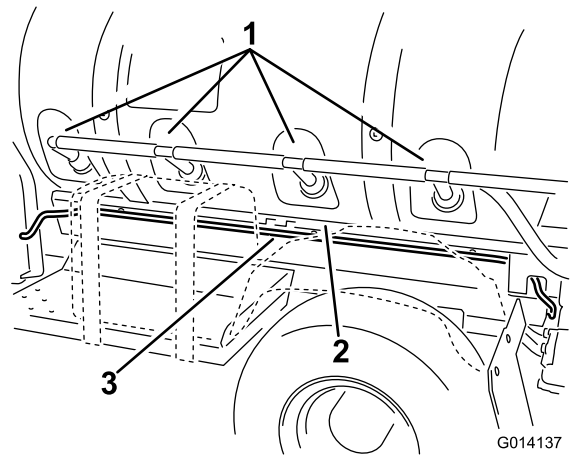

Figure 15
2. Route the harness forward along the tank skid, and below the agitation ports to the battery box (Figure 15). Use three plastic ties to secure the harness to the frame.